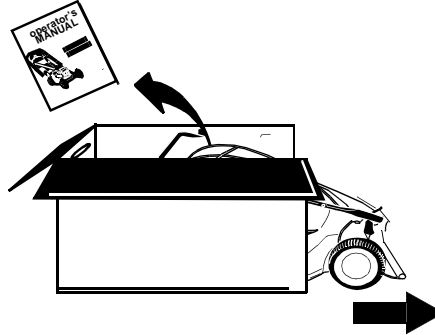

Figure 3
- Remove staples, break glue on top flaps, or cut tape at carton end and peel along top flap to open carton. Remove loose parts if included with unit (i.e., operator's manual, etc.). See Figure 3.